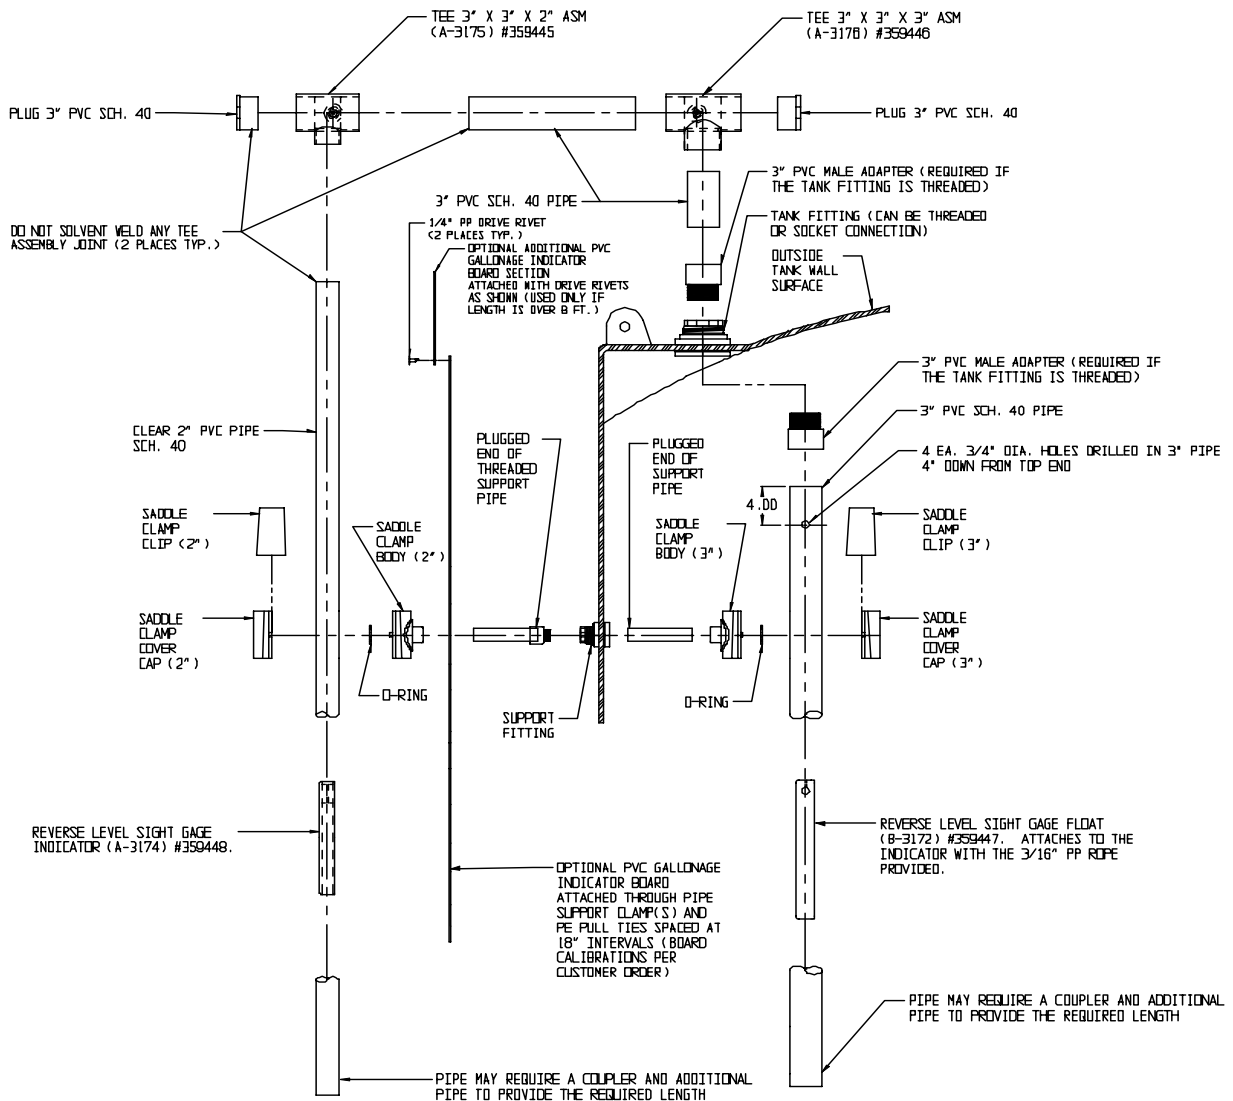

Figure 7.7
7.7.2 Assemble the piping loosely using Figure 7.7, the guidelines detailed below, and the customer approved tank drawing to ensure all parts are present and cut to length. As soon as all parts have been checked, assemble the parts with solvent weld cement and/or threaded connections as shown in Figure 7.7. NOTE - Do not use solvent weld cement on the outside joints indicated in Figure 7.7. SII recommends periodic inspection of the rollers in the tee assemblies and the rope to ensure proper operation of the gage. If it is a requirement to seal these joints, a silicone based caulking should be sufficient.
7.7.3 Assemble and install the support structures as shown in Figure 7.7 (without the saddle clamp cover caps and clips). Make sure the support clamp orientation is correct (with the small width of the wedge toward the top of the tank) and that the plugged support pipes are installed with the plugged end as close to the support fitting as possible. Make sure that the indicator board has been installed over the outer pipe supports as shown in Figure 7.7. Assemble and install piping as per the customer approved drawing. As piping is being installed on the tank, lock it in place with the saddle clamp cover caps and clips provided (make sure that the sealing o-ring is in the proper position as the pipe is positioned into the saddle support body). Seal all
threaded pipe connections with Teflon pipe sealant and connect solvent weld sockets with the correct solvent cement (except the joints as noted in Figure 7.7).